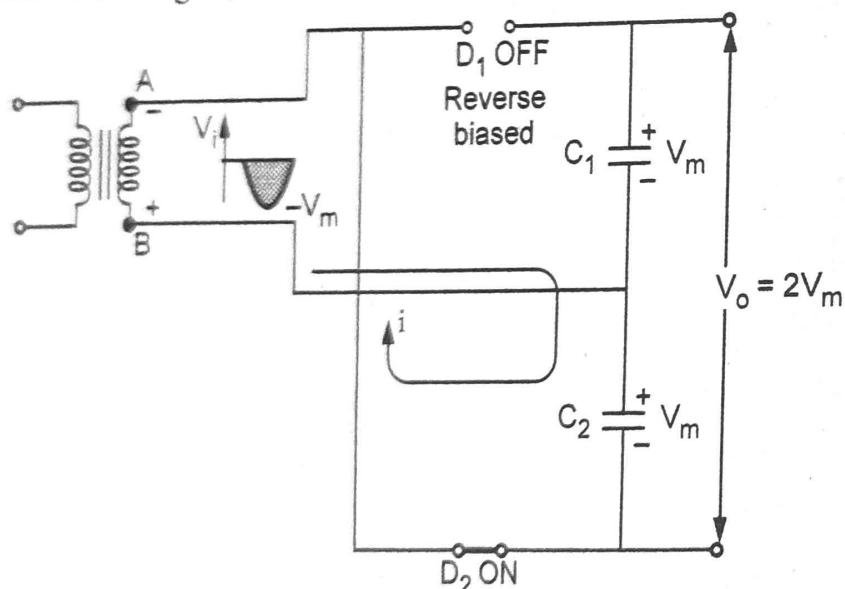

Fig. Q.52.3 Negative half cycle of input
- The capacitor \$C_2\$ gets charged equal to \$V_m\$ with the polarity as shown in the Fig. Q.52.3.